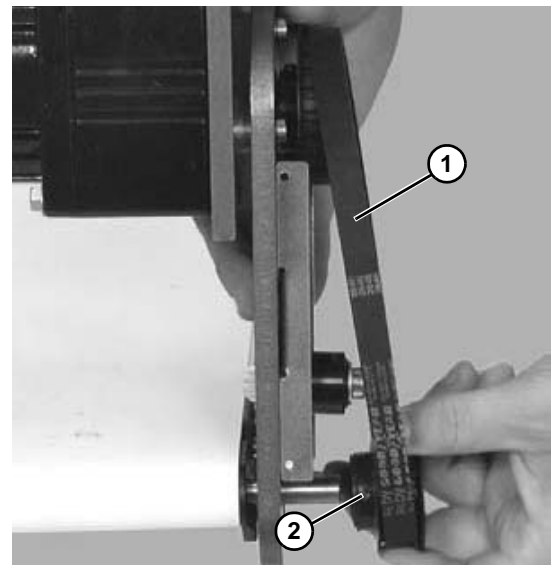

Figure 18
3. Remove timing belt (**Figure 18, item 1**).
If timing belt does not slide over pulley flange, loosen two driven pulley set screws (Figure 18, item 2) and remove pulley with belt ((Figure 18, item 1). For re-installation, see steps 6 and 7 on page 10.